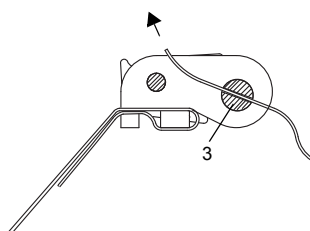

Fig. 7.14: Ratchet clasp with tension strap
- Insert the long end of the tension strap into part 3 of the ratchet clasp (see Fig. 7.14).